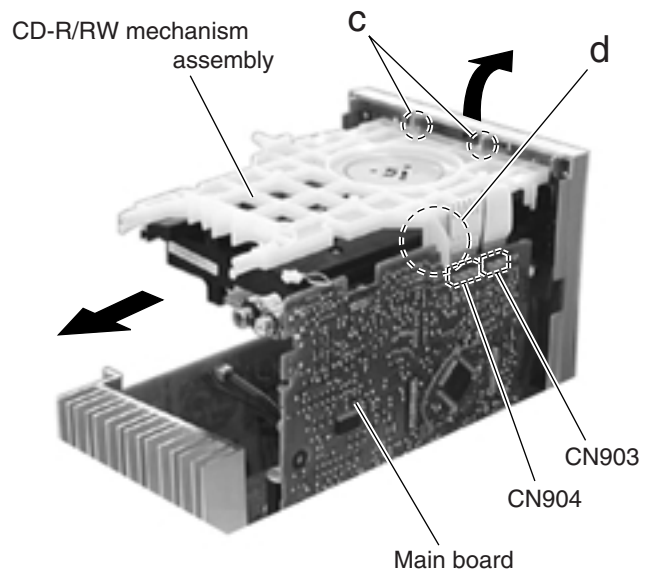

Fig.8
■Removing the CD-R/RW mechanism assembly (See Fig.8)
REFERENCE: Refer to the method of removing the CD-R/RW mechanism assembly and Fig.8.